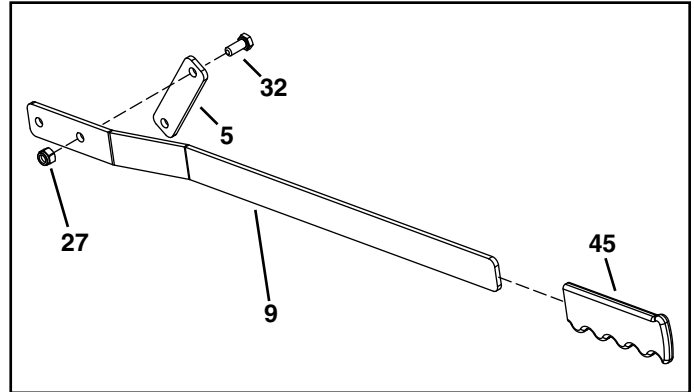

FIGURE 2
- On the right side, assemble the handle brace bracket (5) to the lift handle (9) using a 5/16" x 3/4" hex bolt (32) and 5/16" nylock nut (27). Tighten. See figure 2.
- Assemble the grip (45) onto the lift handle.